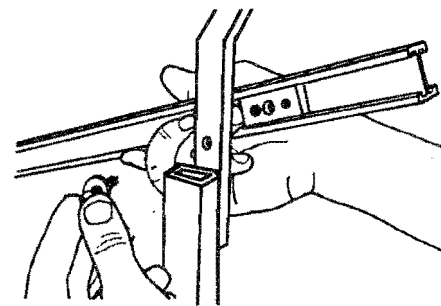
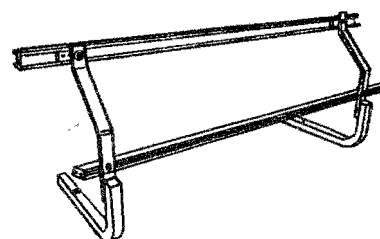

Fig. 1
Fig. 2
2. Slide a T-nut (2) into the channel (1). Attach the T-nut to the Lathe Duplicator's support bracket with a black cap screw (3) and flat washer (4), as demonstrated in Fig. 1. Do the same for the other side of the channel. When attached, the Lathe Duplicator should look like Fig. 2.